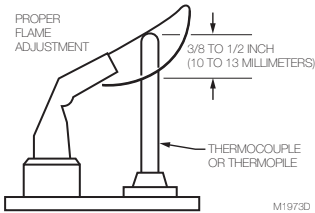

Fig. 8. Thermocouple or thermopile tip must be in pilot flame.
The pilot flame should envelop 3/8 to 1/2 in. [10 to 13 mm] of the thermocouple or thermopile tip. See Fig. 8. To adjust pilot flame:
- Ensure the pilot flame continuously covers the top 3/8 to 1/2 in. [10 to 13 mm] of the thermocouple or thermopile. See Fig. 8.